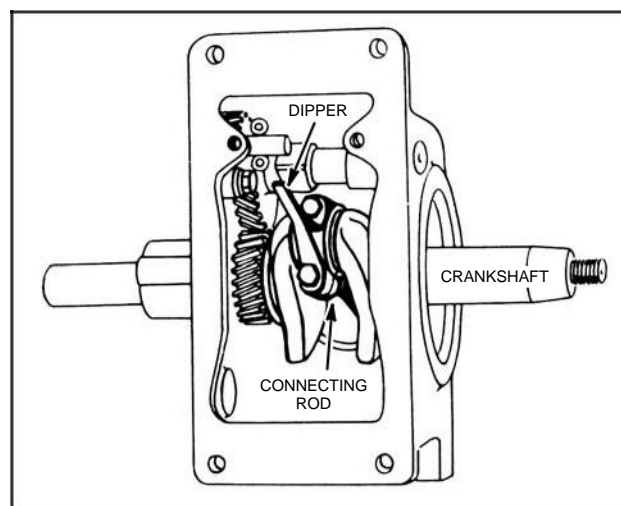

Fig. 557 – GENERAL VIEW OF ROD ASSEMBLY
After piston is entirely in the cylinder, invert engine or lay it on its side. Pull rod down and fit rod bearing to crankpin. Assemble cap to rod taking care that assembly marks come together. Tighten cap screws securely to the torque shown in Table No. 39. Revolve crankshaft at least two (2) revolutions. If rod strikes cam, assembly instructions have not been followed or the engine is out of time. If crankshaft operates freely, bend lock plate or rod lock against screw heads as shown in Fig's. 545, 555 or 556. See Fig. 557 for general view of rod assembly with oil dipper.